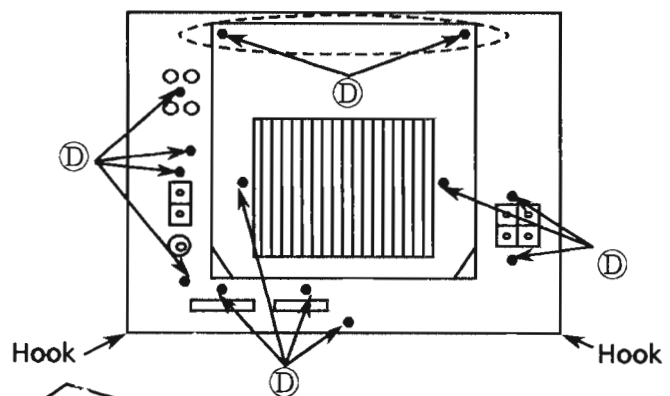

Figure 3 Rear view
1. Remove the 2 screws (D) in the broken line to remove the heat sink cover (Figure 3).
2. Remove the other screws (D).